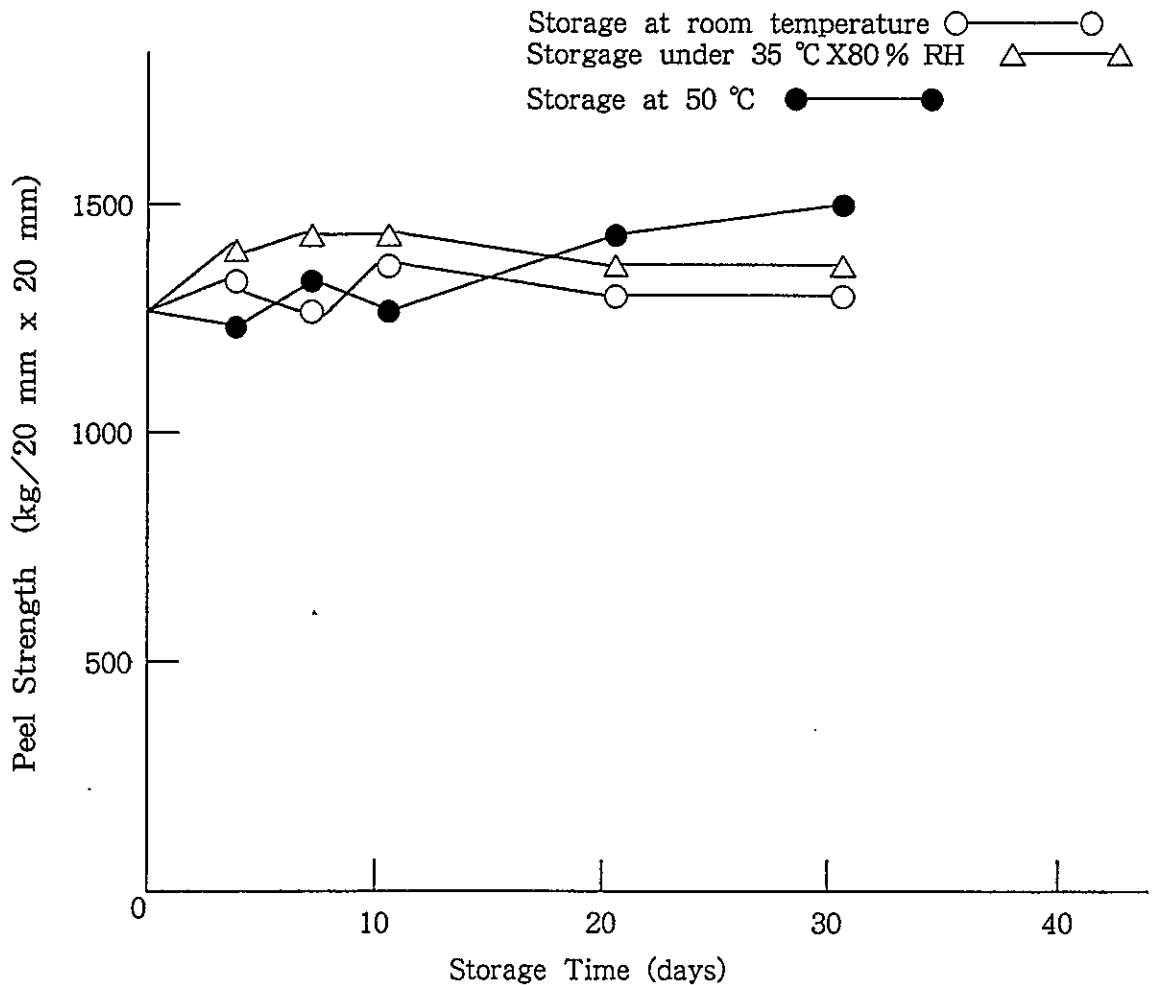

Figure 8 : Adhesion after Storage
- (1) Testing method : 180° peel strength
- (2) Adherend : Stainless steel plate (conforming to JIS - Z - 1528 - 6 - 7 - 2)
- (3) Measuring temperature : 20 °C
- (4) Peeling rate : 300 mm/min
- (5) Conditions for storage : Tape No.510K stored under three different conditions shown in Figure 8 is taken out and 180° peel strength is checked.